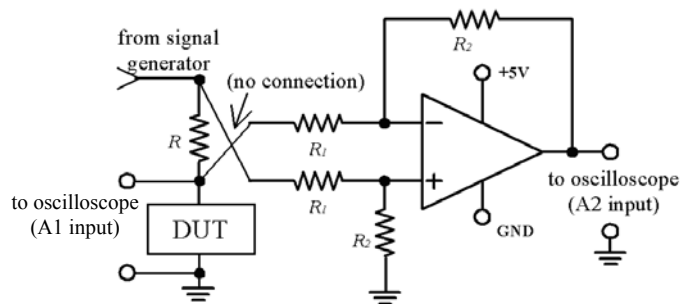

Figure 6: Schematic for the curve-tracer circuit.
1. Build the curve-tracer circuit as shown in Figure 6, with $R = 50\ \Omega$ and $R_1 = R_2 = 10\ \text{k}\Omega$.